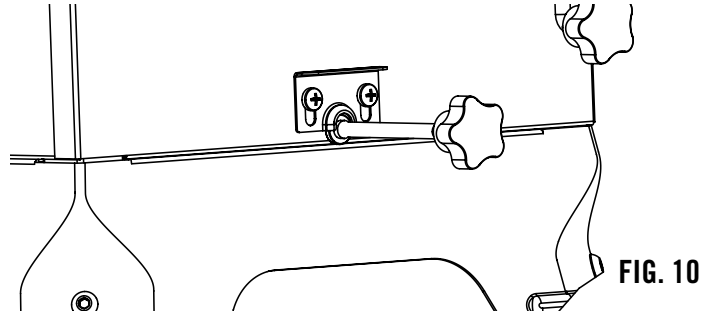

FIG. 10
2. Lift pullout lock and pull clean-out port knob to empty ash into ash cup. See Fig 10.